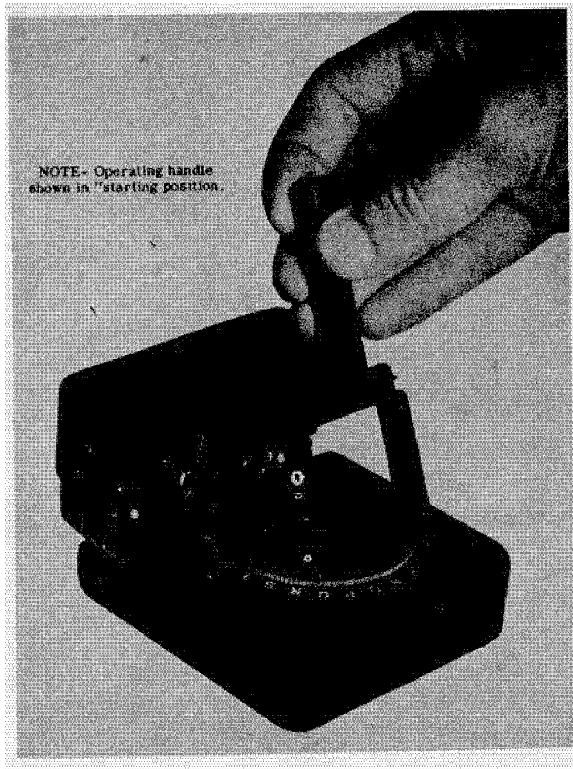

Figure 2-1. Using CO/B-8 Coder.
2.1.1 *CO/B-8 Coder*. In general, the CO/B8 Coder is operated by rotating the CHARACTER DIAL until the desired character is positioned opposite the index mark and then pulling the OPERATING HANDLE down. The operating handle must be pulled down smoothly and evenly. It must not be snapped or jerked quickly, and must always be pulled to the stop at the end of its travel. To become accustomed to the "feel" of the operating handle, operate the CO/B-8 Coder several times without a CA-3B Cartridge attached. Open the extension handle as shown in Figure 2-1.
Step 4. Depress the EXTENSION HANDLE RELEASE BUTTON and lift up the handle. Raise the HANDLE to the "starting" position shown in Figure 2-1.
Step 5. Using the thumb and three fingers as shown in Figure 2-1, grasp the HANDLE and pull it down with a firm, even stroke until it snaps against the stop at the end of its travel. DO NOT HESITATE DURING THE DOWNSTROKE. The character has now been recorded in the CA43B Cartridge.